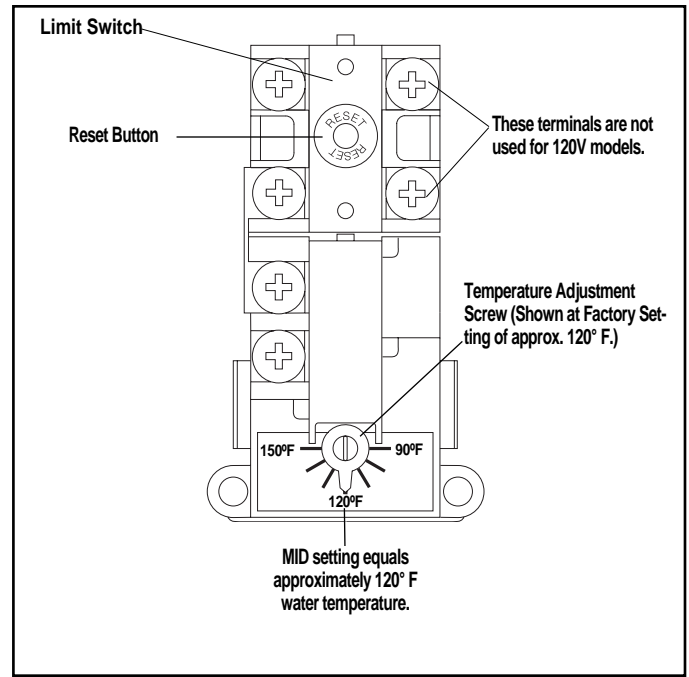

Figure 10 — Thermostat temperature adjustment.
- B. Remove the four (4) screws securing the thermostat access panel and the two (2) thermostat insulation pads, exposing the thermostat. The plastic personnel protector **should not be removed**.
- C. With a small screwdriver, adjust the thermostat setting. The 120°F factory set position (the recommended setting) is at the 6 o'clock position (Refer to Figure 10). The temperature settings range from approximately 90°F to approximately 150°F.
- D. Replace the two (2) pieces of fiberglass insulation over the thermostat and attach the thermostat access panel.